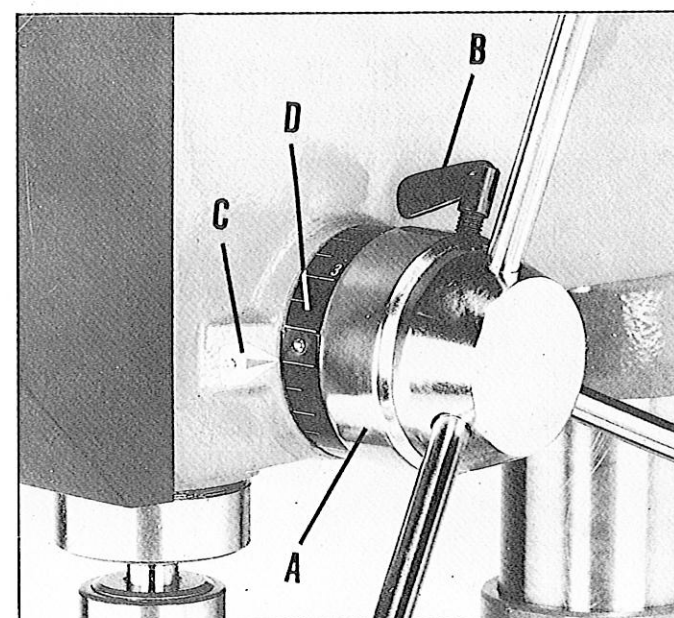

Fig 34
Where a number of holes are to be drilled to exactly the same depth, a depth stop is provided in the pinion shaft housing (A) Fig. 34, and is used as follows:
1. Loosen lock handle (B) Fig. 34, and rotate housing (A) until the pointer (C) lines up with the depth you wish to drill on the scale (D). Then tighten lock handle (B).
2. All holes will then be drilled to the exact depth as indicated on the scale (D) Fig. 34.